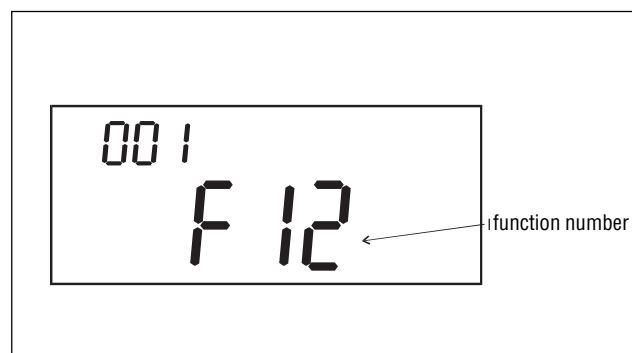
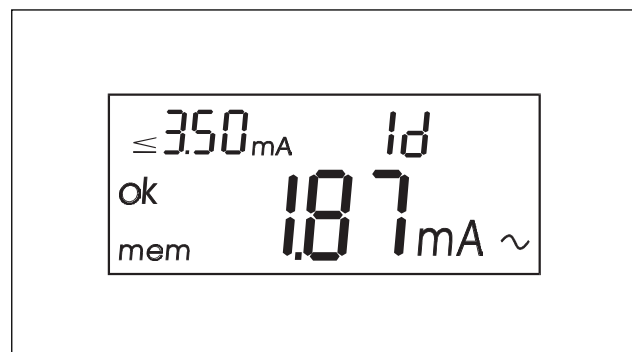

Fig. 9.7
Fig. 9.8
- Press the **RCL** key again to confirm the previously entered customer and UUT number. The following is briefly displayed (please refer to Fig. 9.7 Example for Differential Current Measurement):
The last memorised result for the selected customer/UUT number is displayed as follows (Fig. 9.8 Example for Differential Current Measurement):
- The **DISPLAY** key is used to switch between the saved measurement values and the measurement function / customer / UUT number, i.e. between Fig. 9.7 and Fig. 9.8.